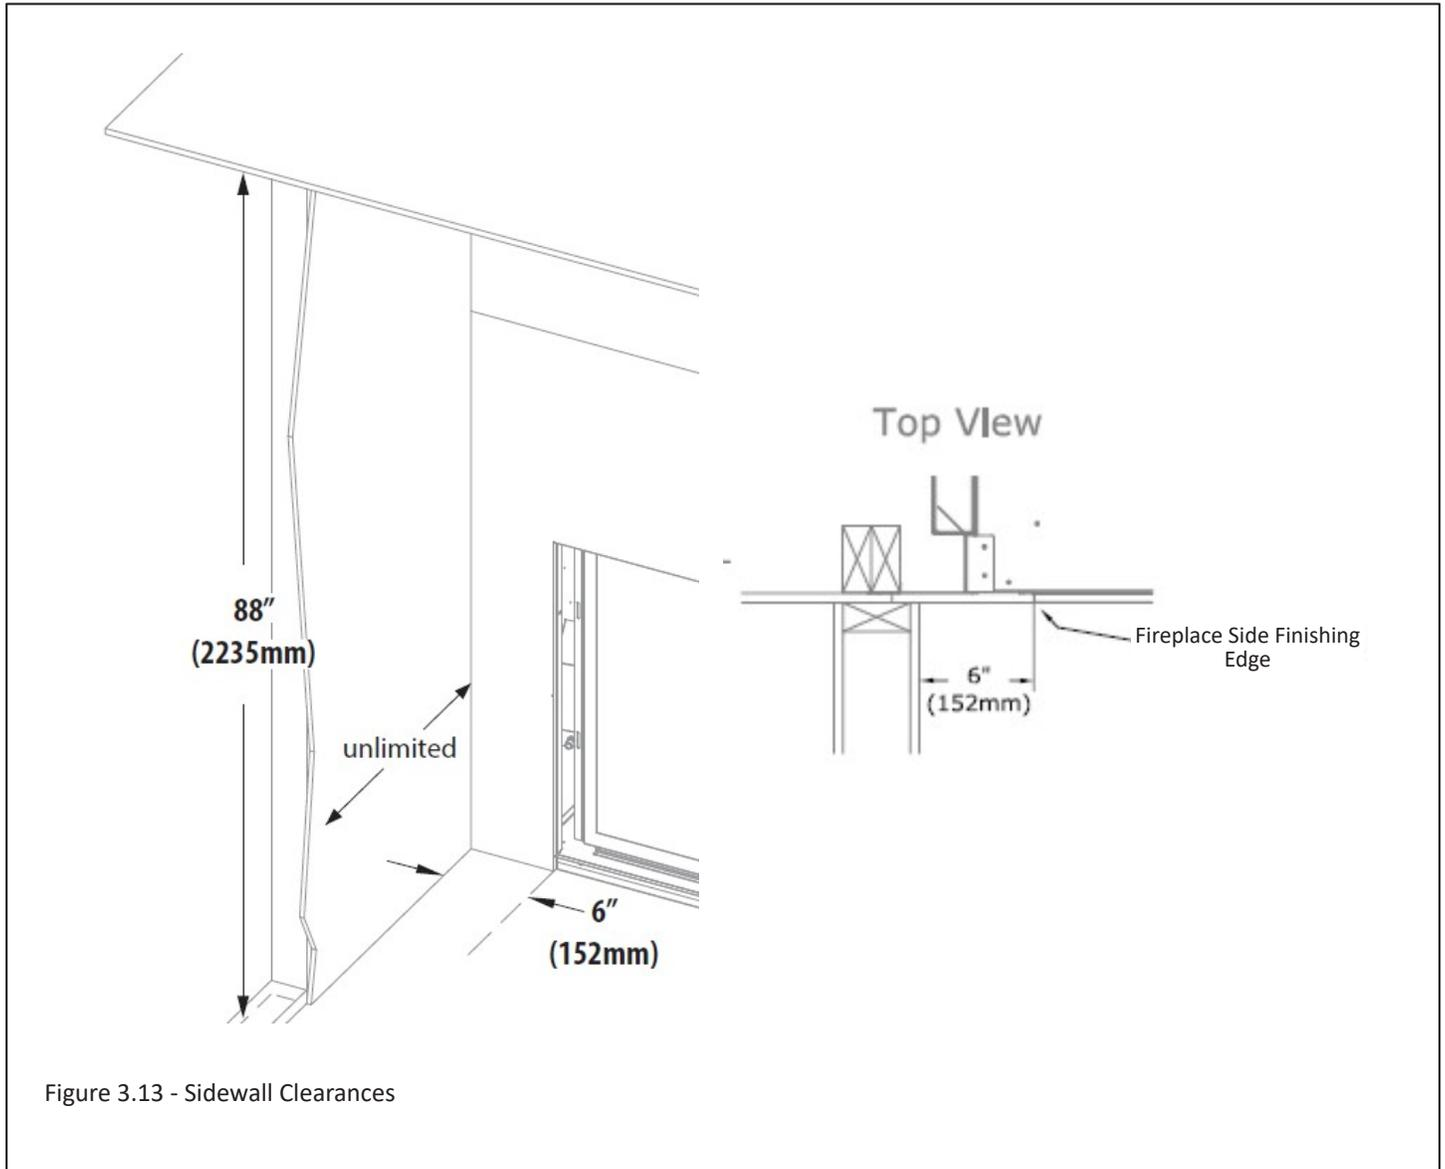

Figure 3.13 - Sidewall Clearances
- Mantel Leg: Follow "Combustible Sidewall Clearance" below. See Figure 3.13.
- Combustible Sidewall Clearance: The adjacent sidewall projection is unlimited and starts at 6" (152mm) from the side of the fireplace. See Figure 3.13.
- Figure 3.13 shows the unlimited sidewall projection where it is the minimum of 6" (152mm) away from the side fireplace finishing edge.